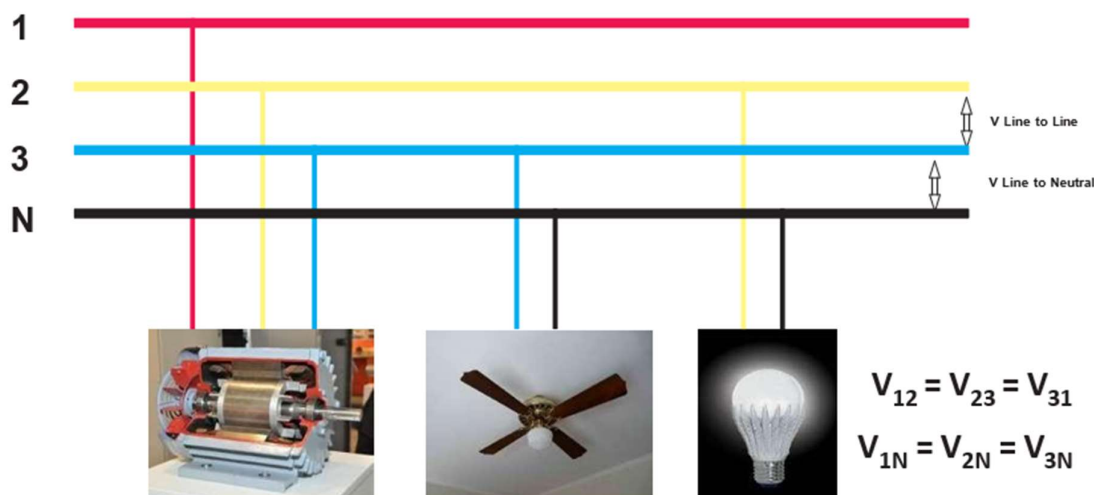

Fig. 2.4: Connection of load to a three-phase supply (Three-phase, four-wire system)
As mentioned, current flows because of the voltage difference between two points. If the voltage source creates direct current (DC), it is called DC voltage. If the source creates alternating current (AC), it is called AC voltage. AC became more popular in the late 19th century because it was a more cost-effective option compared to DC. The connection of load to a three-phase supply, is shown fig. 2.4.